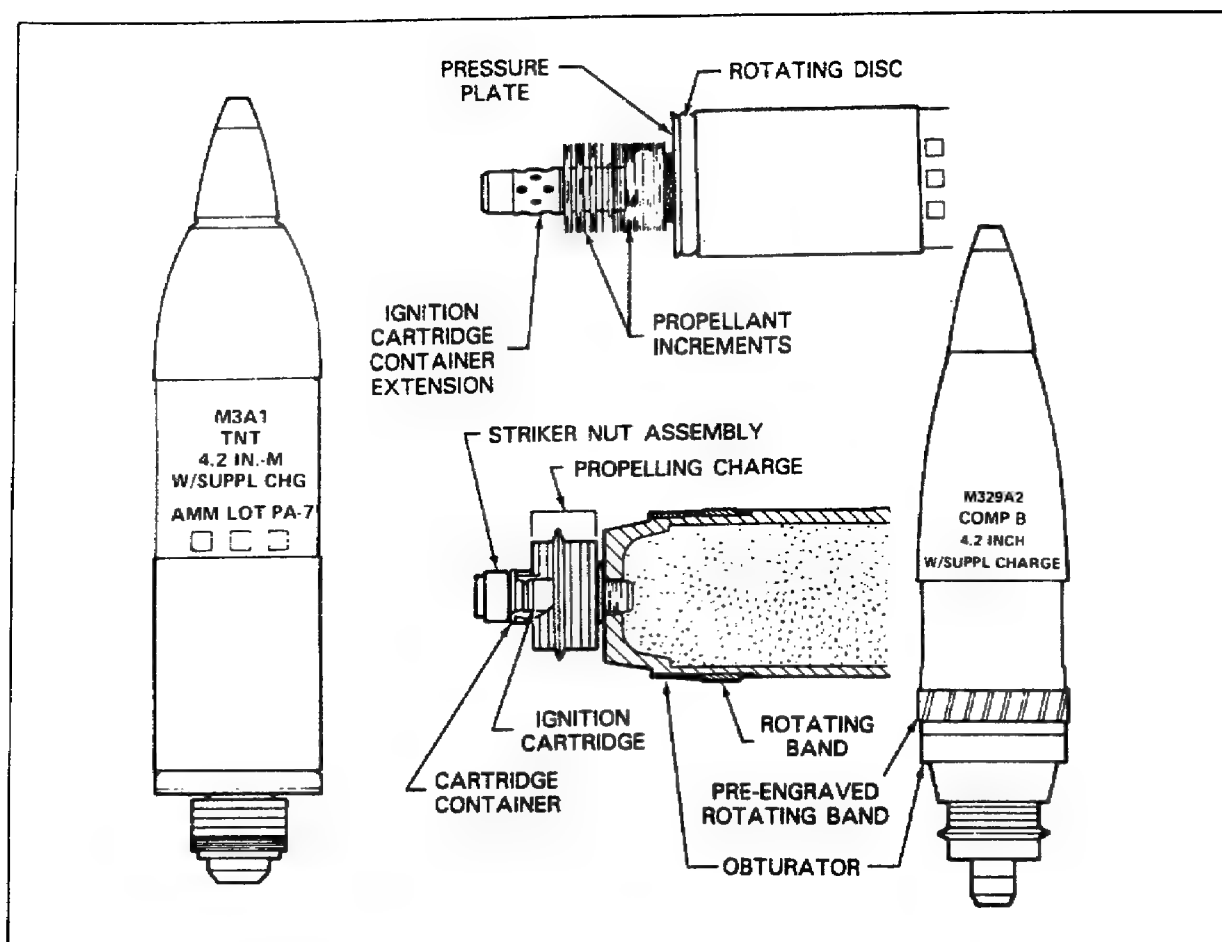

Figure 32. 4.2-Inch HE Mortar Cartridges.
**4.2-Inch HE Mortar Ammunition.** The 4.2-inch HE mortar cartridge is used to create blast and fragmentation against personnel and material. It is produced in two basic configurations. See Figure 32. The cartridge on the left is the most common. It has a rotating disc at the base that expands upon firing and engages the lands and grooves. This causes the round to spin when it is forced through the bore. The spin continues in flight. The cartridge on the right has no rotating disc. It has a rotating band that is pre-engraved to fit the lands and grooves, and an obturator made of a rubberized material immediately behind the rotating band. The obturator expands and seals gases when the round is fired. Both cartridges use basically the same type of ignition cartridge. Examine the two types of 4.2-inch mortar tail assemblies in Figure 32. All 4.2-inch HE mortar cartridges are painted in the standard color code for HE, olive drab with yellow markings.